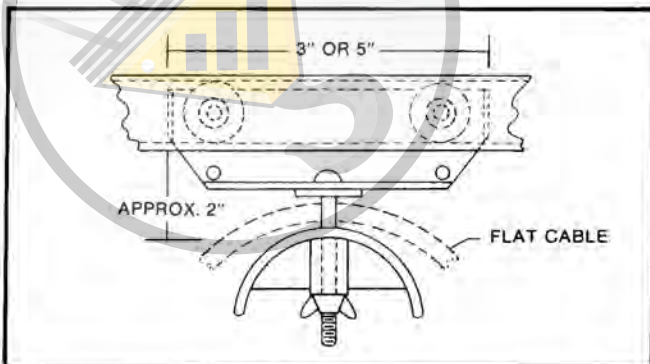

FIGURE 46
- 821.201 Standard trolley: Standard trolley has a length of 5" and consists of a trolley frame with integral bumpers and wheels, cable pad, nylon cable saddle, and hardware. Refer to Figure 46.
- 821.202 Short trolley: Standard trolley has a length of 3" and consists of a trolley frame with integral bumpers and wheels, cable pad, nylon cable saddle, and hardware. Refer to Figure 46. The short trolley is used where minimum storage space is critical.